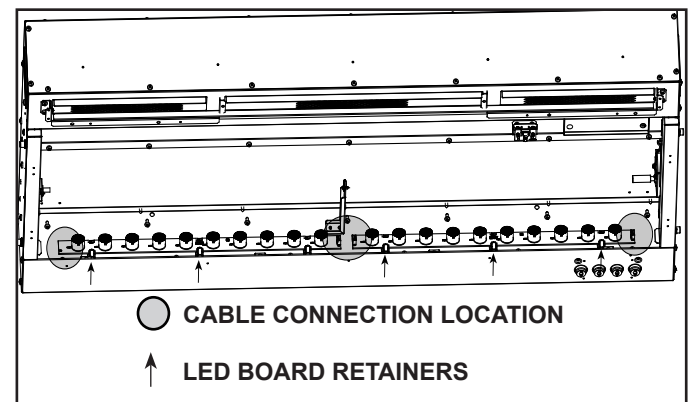

Figure 24 Unplug LED Board Cable Connections
4. Release the LED boards from plastic retainers. See Figure 24.